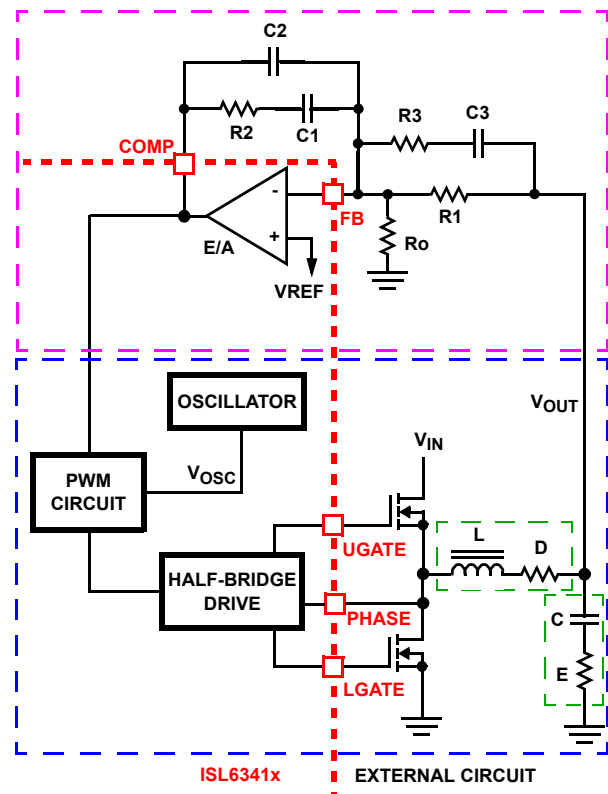

FIGURE 13. VOLTAGE-MODE BUCK CONVERTER COMPENSATION DESIGN
address a broad range of applications, a type-3 feedback network is recommended, as shown in the top part of Figure 13.
Figure 13 also highlights the voltage-mode control loop for a synchronous-rectified buck converter, applicable to the ISL6341x circuit. The output voltage (V_{OUT}) is regulated to the reference voltage, V_{REF} . The error amplifier output (COMP pin voltage) is compared with the oscillator (OSC) modified sawtooth wave to provide a pulse-width modulated wave with an amplitude of V_{IN} at the PHASE node. The PWM wave is smoothed by the output filter (L and C). The output filter capacitor bank's equivalent series resistance is represented by the series resistor E.
(F_0 ; typically 0.1 to 0.3 of f_{SW}) and adequate phase margin (better than 45°). Phase margin is the difference between the closed loop phase at F_{0dB} and 180° . The equations that follow relate the compensation network's poles, zeros and gain to the components (R_1 , R_2 , R_3 , C_1 , C_2 , and C_3) in Figure 13. Use the following guidelines for locating the poles and zeros of the compensation network:
4. Select a value for R_1 ($1k\Omega$ to $5k\Omega$, typically). Calculate the value for R_2 for desired converter bandwidth (F_0). If setting the output voltage via an offset resistor connected to the FB pin (R_0 in Figure 13), the design procedure can be followed as presented in Equation 4.